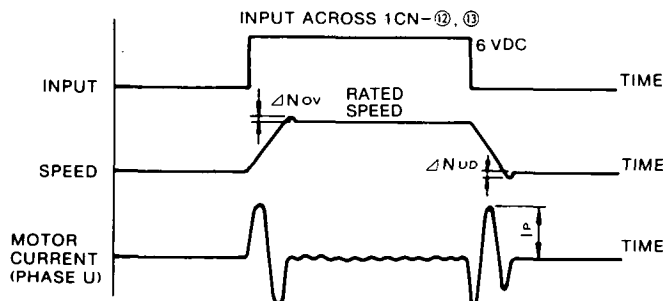

Fig. 12.3 Start-Stop Response Characteristics
(3) Start-stop Response Characteristics (Fig. 12.3)